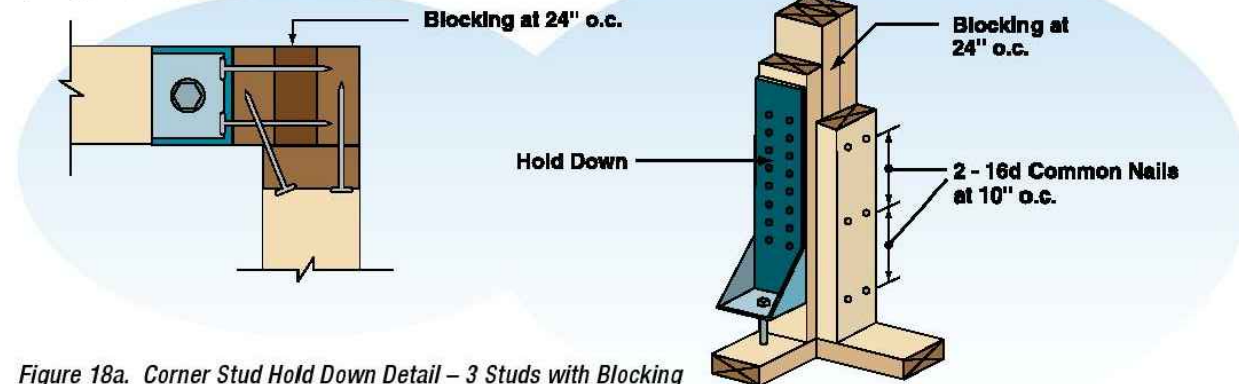

Figure 18a. Corner Stud Hold Down Detail - 3 Studs with Blocking
■ **Hold Downs.** Hold downs with a capacity in accordance with Table 10 or 11 (page 18 or 19) are required in the full-height segment at each end of a wall line. When full height segments meet at a corner, a single hold down shall be permitted to be used to resist the overturning forces in both directions when sized to resist the larger load and the corner framing in the adjoining walls is fastened together to transfer the uplift load (See Figures 18a and 18b). A continuous load path must be maintained to the foundation. Where hold downs on a top floor align with hold downs on a lower floor, the combined capacity of the two hold downs must be resisted by anchorage to the foundation.